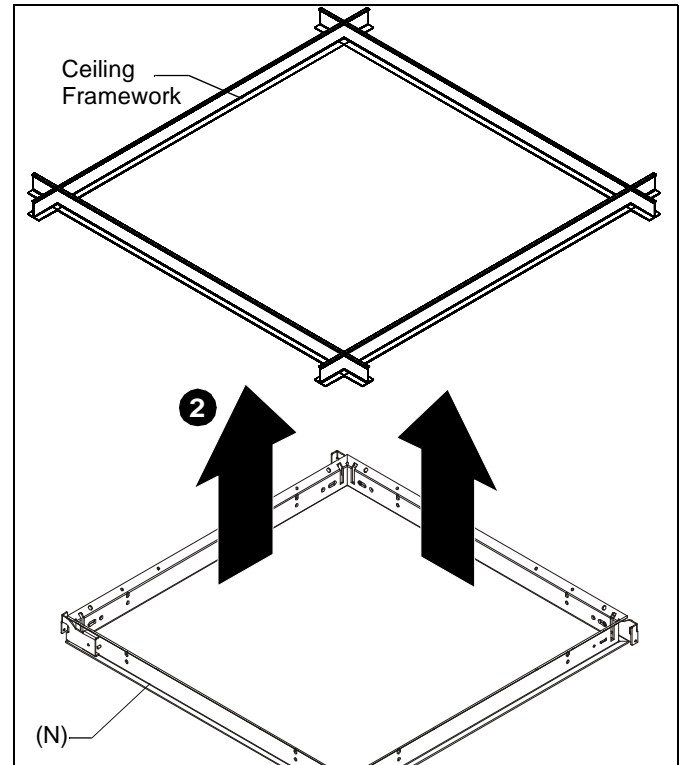

Figure 2
2. Insert CMS490 frame (N) with attached brackets into the empty ceiling space. (See Figure 2)